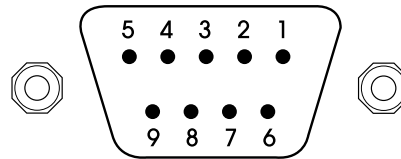

Figure 23: Encoder Pin-out
The encoder must be wired to a 9 pin 'D' male plug, using good quality multi-core/conductor screened/shielded cable, according to the diagram shown in Figure 23. If the encoder is a single-ended type (that is, no complimentary outputs) leave the **!chA**, **!chB** and **!index** pins unconnected. If the encoder does not have an index (Z) output, leave the **index** and **!index** unconnected.